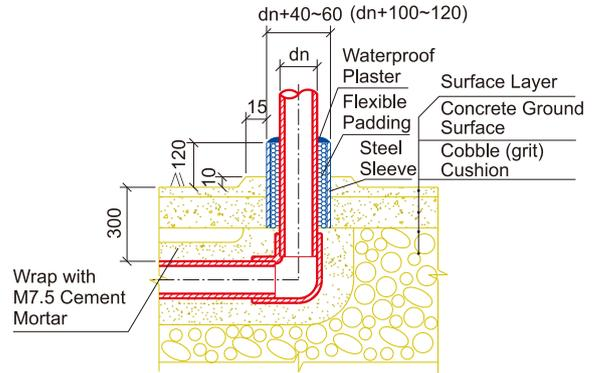

Fig.11 Pipe crosses roof surface (bearing persons) Unit: mm
3.4 Well prepare the anti-leakage measurements when the pipe crosses the roof surface for bearing persons or non-bearing persons. The construction details have been showed in figure 11 and 12.